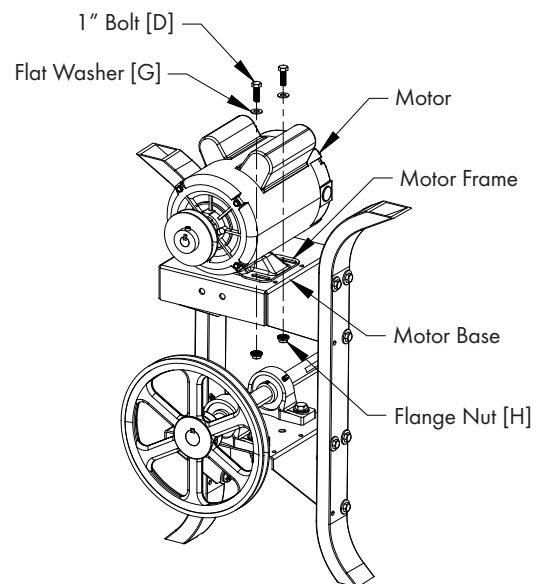

Figure 11A
Install Motor, removed in Step 3, to Motor Base, using (4) 1" Bolts [D], Flat Washers [G] and Flange Nuts [H], insuring the Motor Frame is square with Motor Base. Using straight edge, align motor pulley with propeller pulley and tighten motor bolts. *See Figure 11A and 11B.*